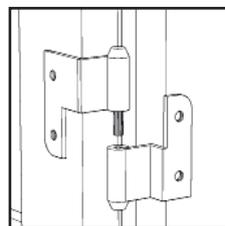

Figure 5
Attach Door (R) and (S) to side panels by sliding the door lift hinges into the side panel lift hinges. (See Figure 5)